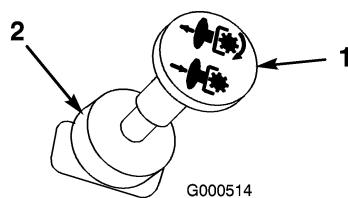

Figure 11
3. Pull out on the PTO switch to engage it (Figure 11).
Push the PTO switch to Off (Figure 11).